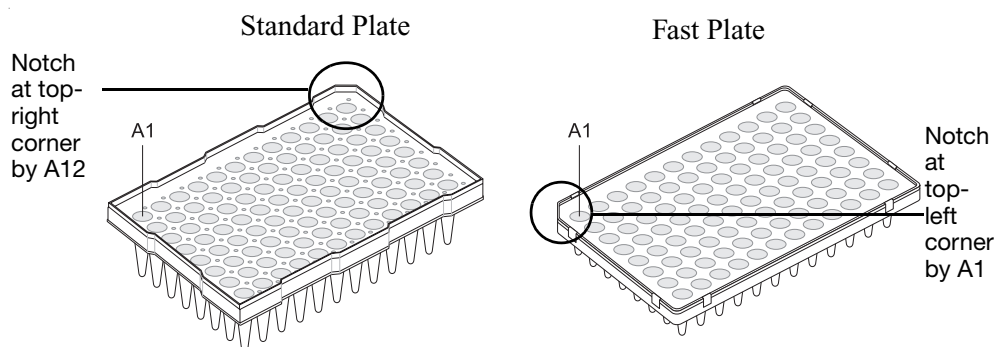

Figure 2 Standard and Fast 96-well reaction plate notch locations
- The notch on the standard plate is at the A12 corner; the notch on the Fast plate is at the A1 corner of the plate (Figure 2).